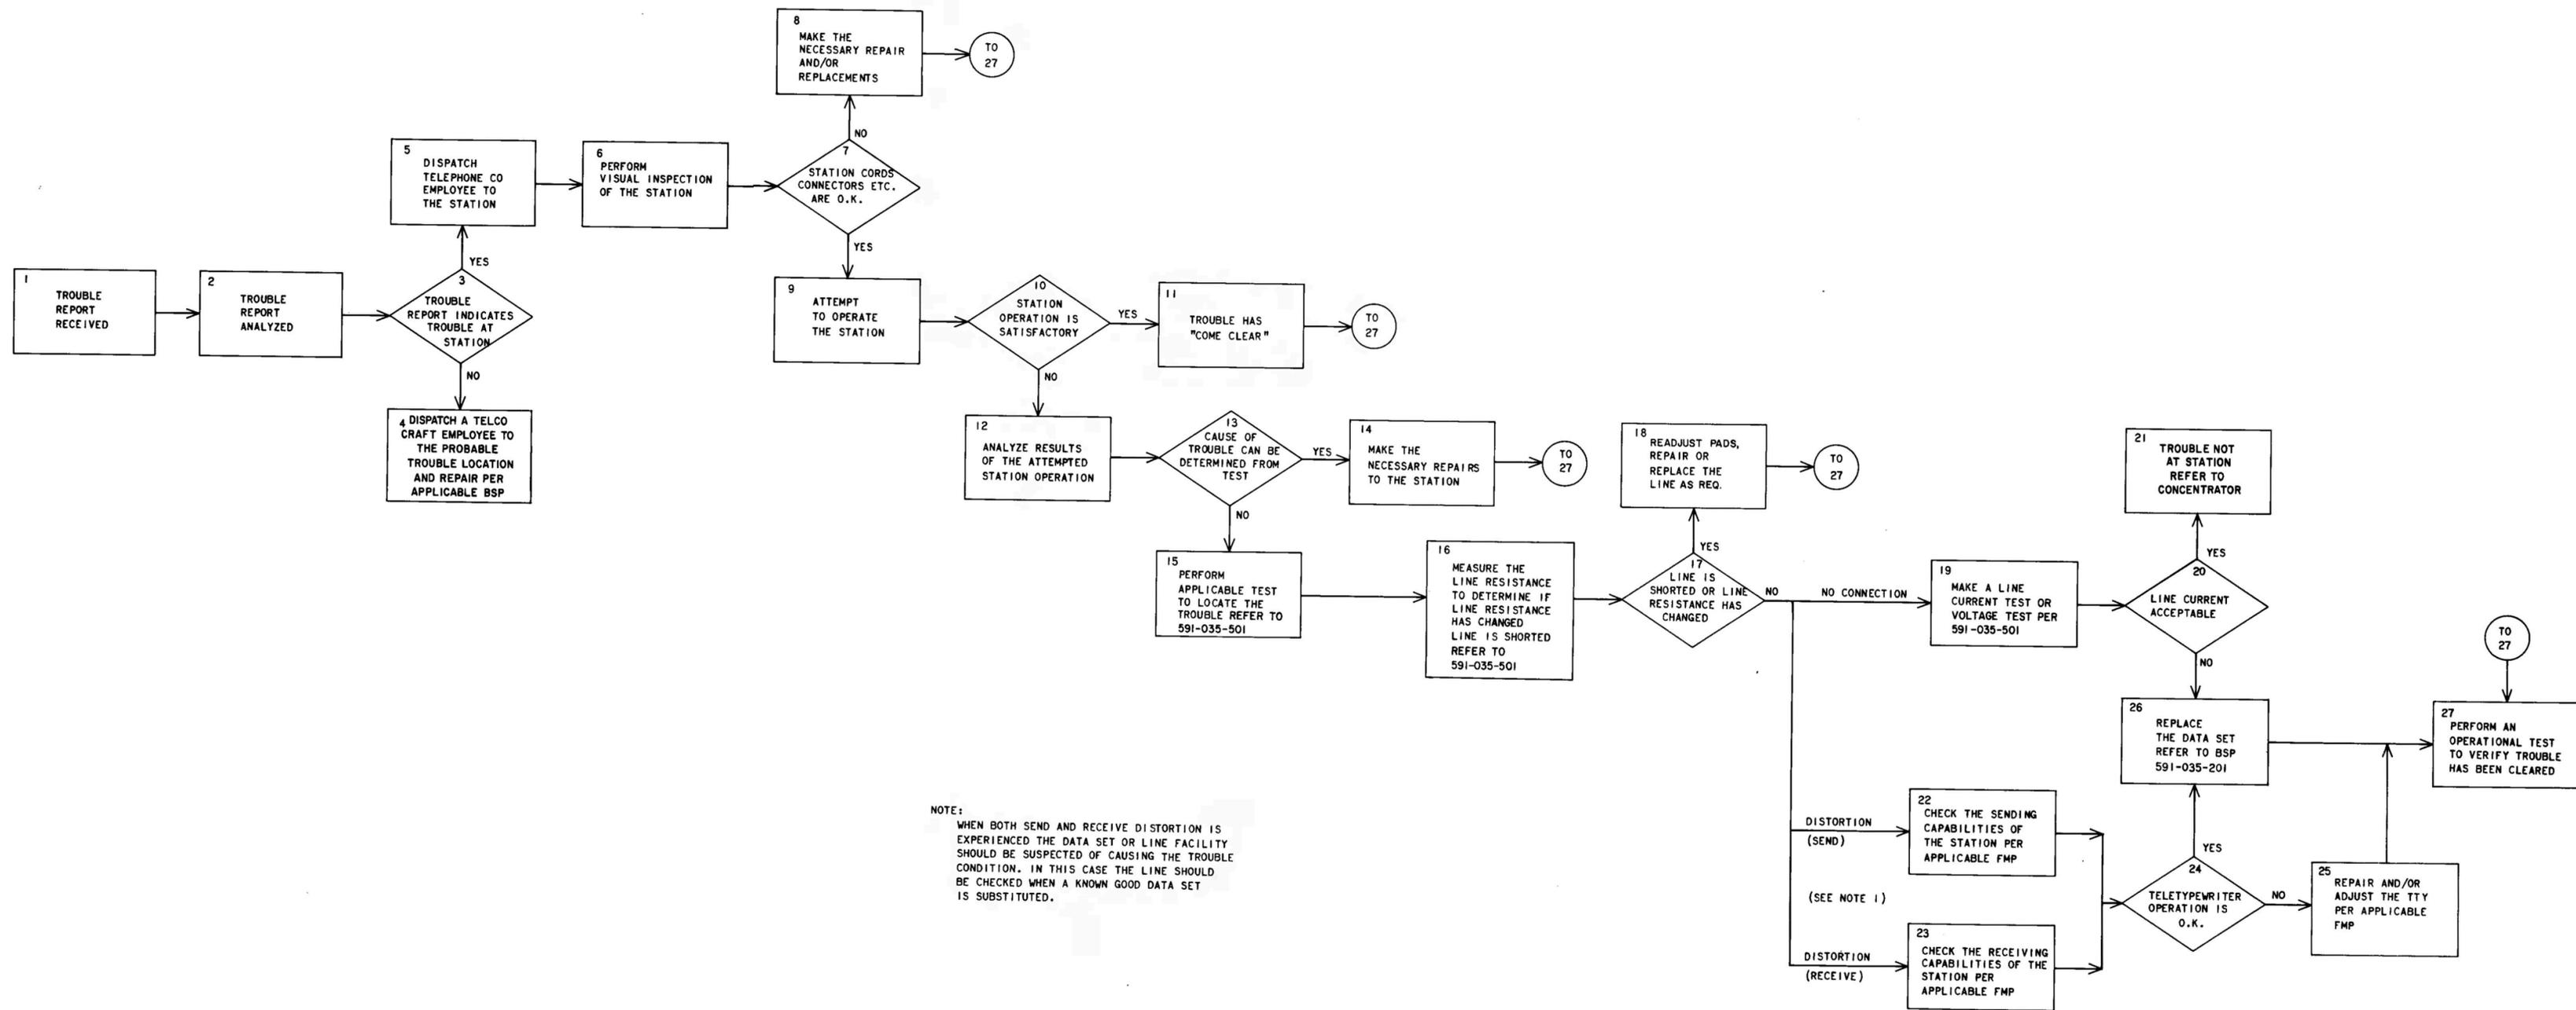

Fig. 4—Trouble Locating Procedure and Maintenance Flow Chart
4.01 A suggested sequence of maintenance is given by the Trouble Locating Procedure and Maintenance Flow Chart in Fig. 4. The blocks of the flow chart are numbered to provide easy reference. Although the numbers are for reference only and do not indicate the sequence of operation, they correspond to the steps of the associated step procedure.
4.03 In the following Step—Procedure and Fig. 4, the term “station” refers to the data transmission equipment connected to the line side